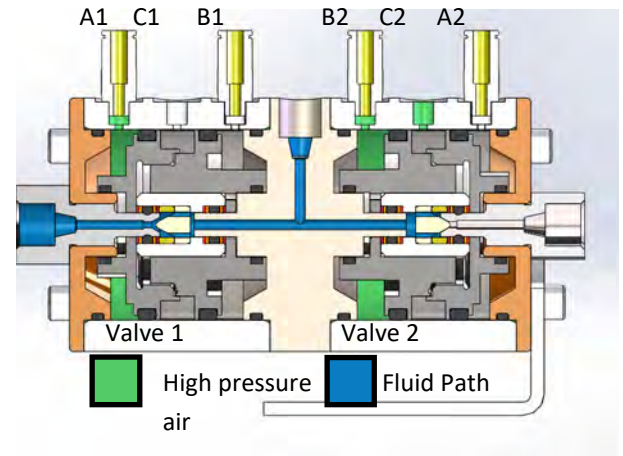

Figure 2.2 Open/Closed Valve
2.2.1.1 Open/Closed Position (A1 / B2) Fig. 2.2